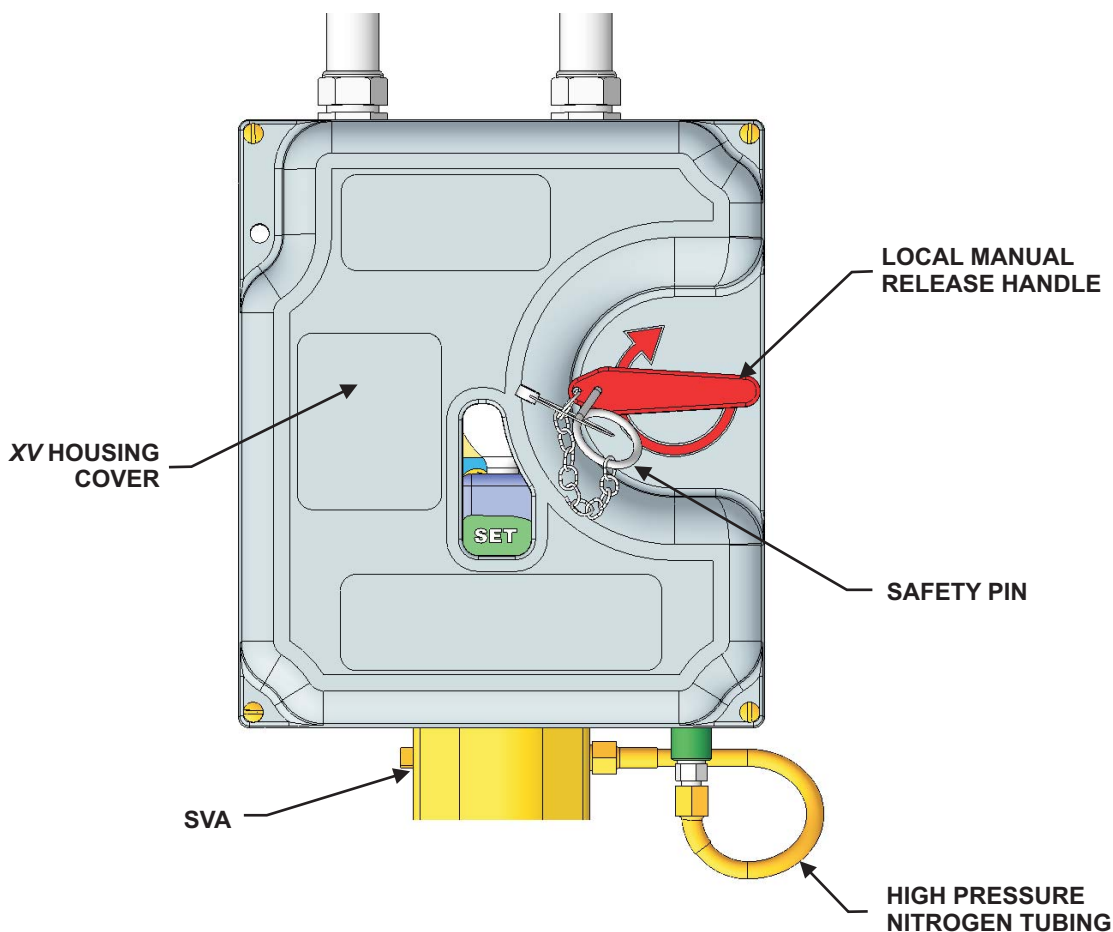

Figure 4-57. XV Control System, Cover Attached
2. Locate the cover of the XV Control System. Ensure that the local manual handle is set and that the Safety Pin is inserted (see Figure 4-57). The handle should be locked in the set position. If the handle can turn, adjust until the pin can be inserted all the way through the handle into the body of the cover.